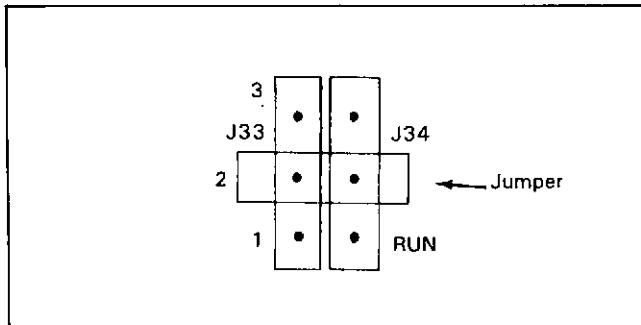

Figure 8-B-2. Jumper A30J33/34 in the 2 Position.
- 1. Move A30J33/J34 to the "2" (middle) position, as shown in Figure 8-B-2.